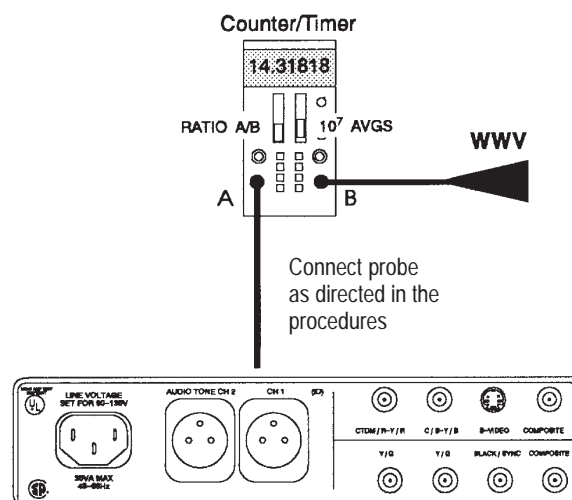

Figure 6–1: Setup to adjust oscillator frequency
- a. Connect the equipment as shown in Figure 6–1, connecting the probe to W151.
- a. Connect the equipment as shown in Figure 6–2 with the following distortion analyzer settings: